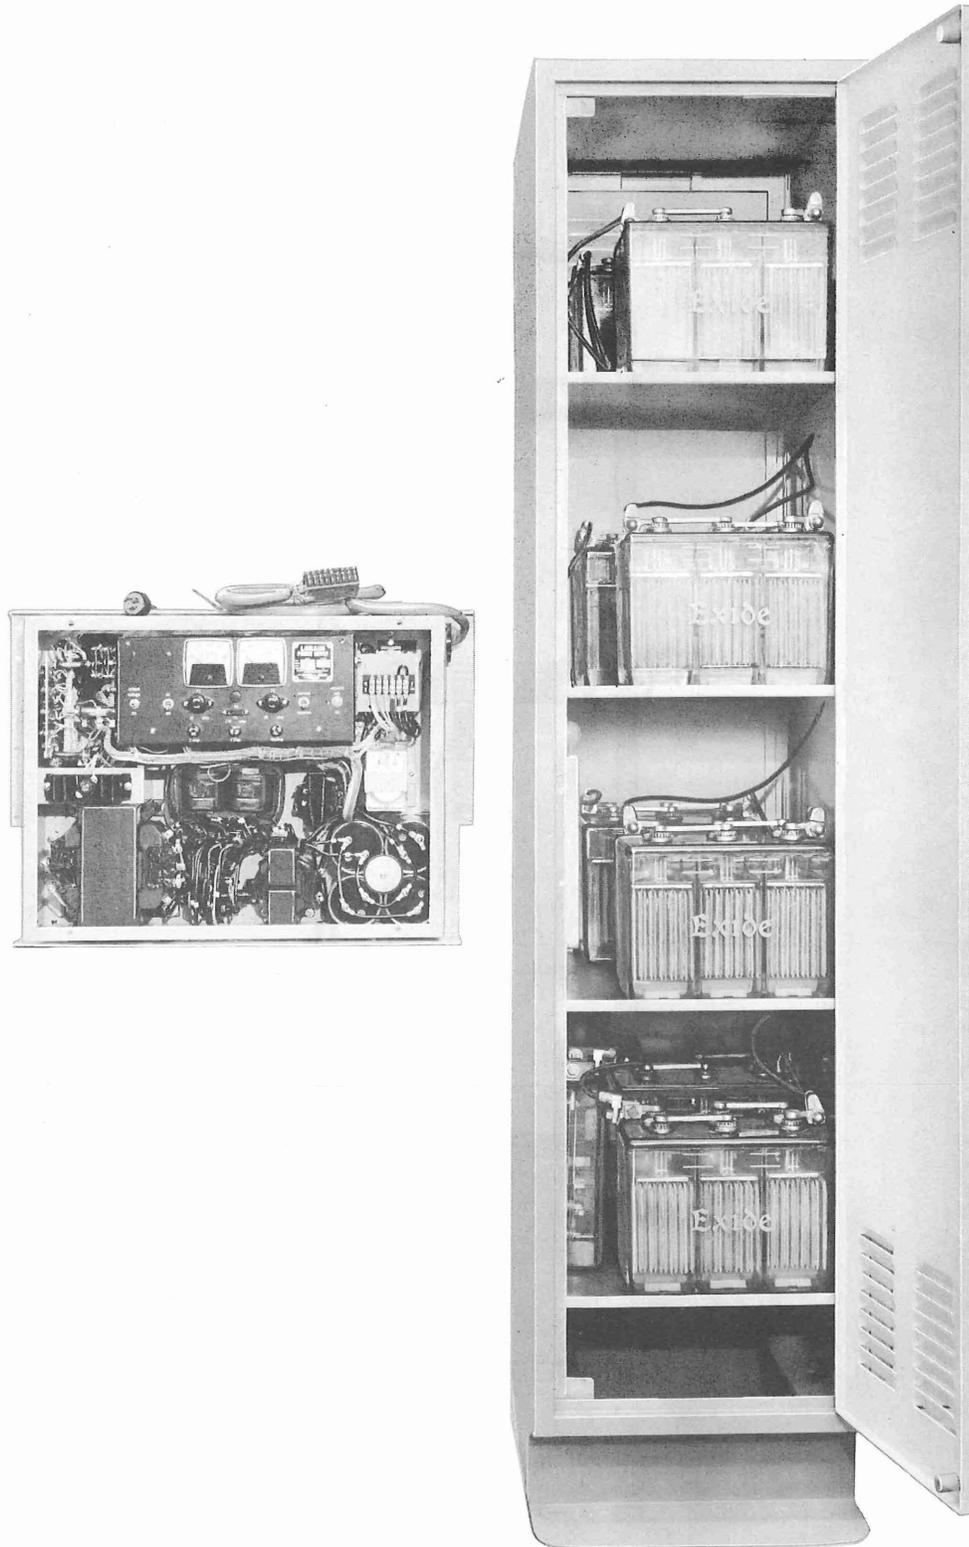

Fig. 3 — Battery Reserve Power Plant With Battery Charging Power Supply Unit
2.10 For locations where PBX service must be maintained during commercial power failures, a separate cabinet with batteries may be provided. When the battery reserve cabinet is used, the power supply units on the basic and supplementary modules are replaced with a battery charging power supply unit on each module. (See Figure 3.)